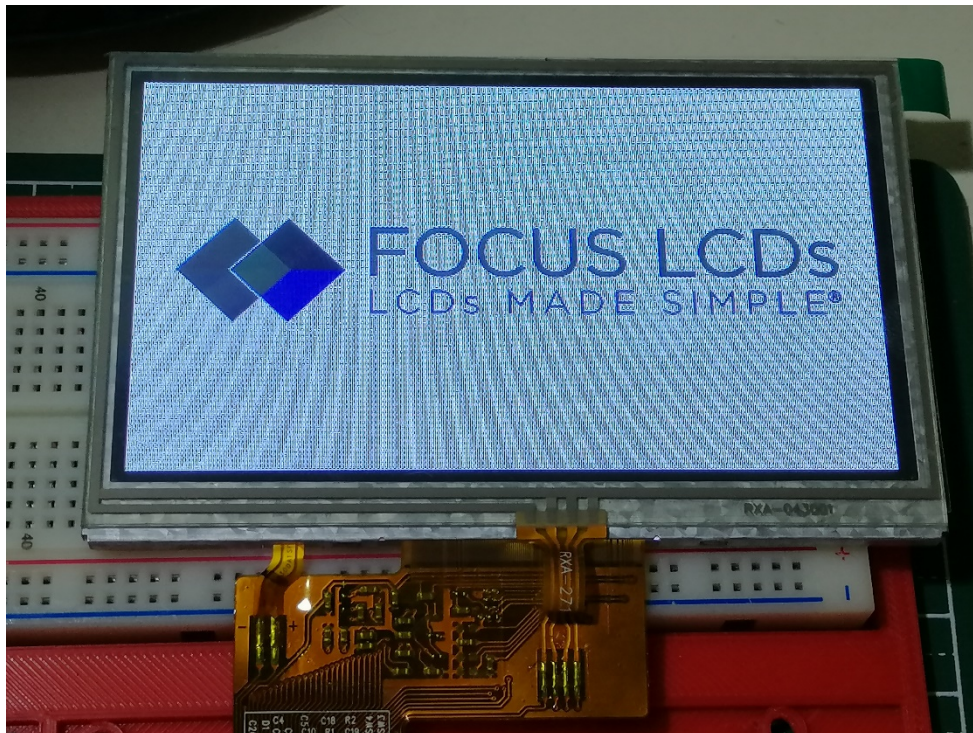

Figure 6: Drawn bitmap on the TFT display module.
4.h Upload to run the sketch. The LCD should have a display like in Figure 6. It will take approximately 35-40 seconds for the bitmap to be drawn.